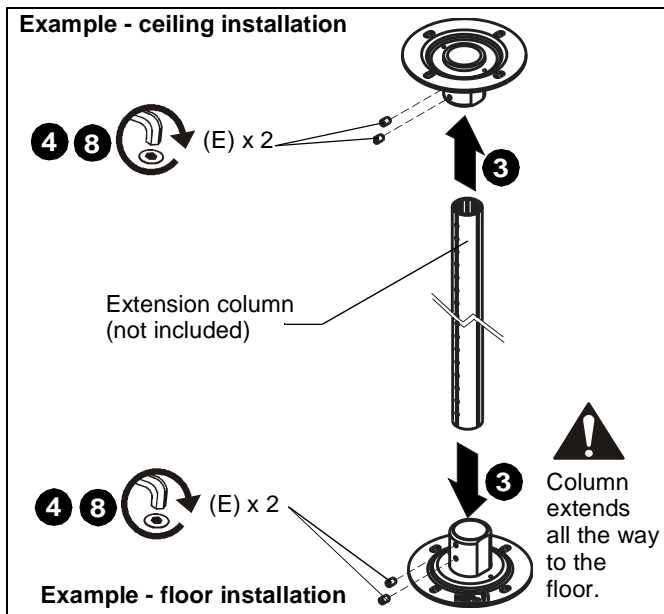

Figure 4
1. Using floor/ceiling flange (A) as a template, mark locations of four pilot holes on ceiling or floor.
3. Install UL Listed CPA or CMS Extension Column Series (not included) into CPA351. (See Figure 4)
4. Loosely install two 5/16" x 1/2" set screws (E) into threaded holes on floor/ceiling flange. (See Figure 4)
8. Fully tighten set screws (E) into floor/ceiling flange (A). (See Figure 4)